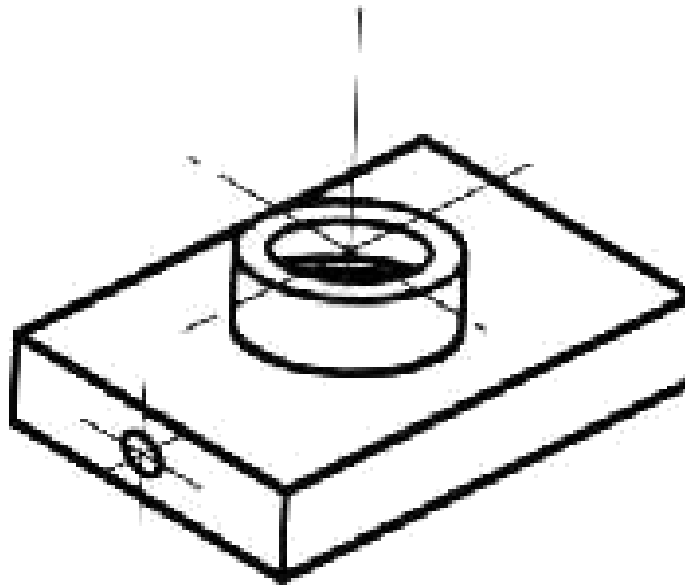

Figure 8 - An isometric drawing that does not show all details
- There are many times when the interior details of an object cannot be seen from the outside (figure 8).